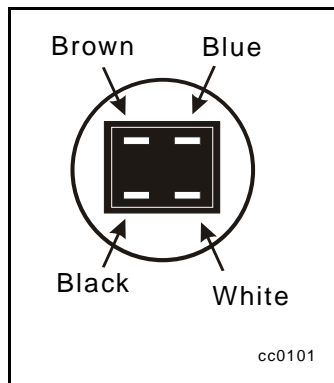

Figure 5-31. Connecting the power cable to the power supply
5. Reconnect the power cable to the power supply (see Figure 5-31).